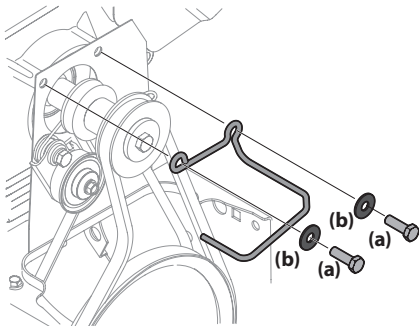

Figure 4-15
- Loosen and remove two bolts (a) and flat washers (b) securing belt guide (if equipped). Remove belt guide. See Figure 4-15.